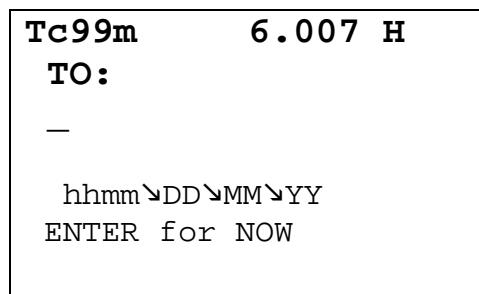

Figure 14-9 Decay Calculation Activity Ending Time / Date Screen
Input the starting time / date as per the instructions below. If the starting time / date is “NOW”, press **ENTER**. Figure 14-9 Decay Calculation Activity Ending Time / Date Screen will appear:
- press **ENTER**. Figure 14-9 Decay Calculation Activity Ending Time / Date Screen will appear.